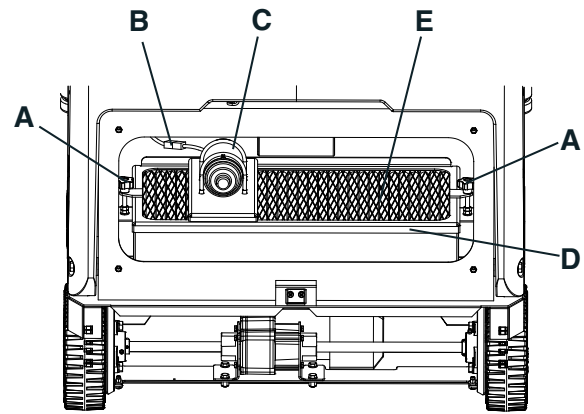
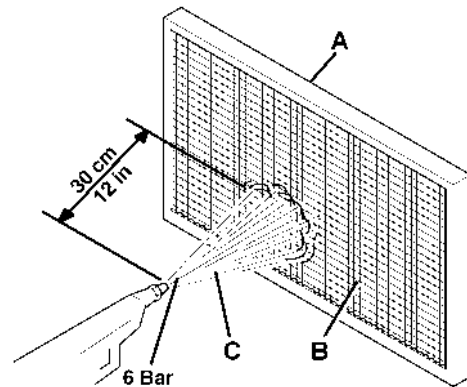

Figure 10
Figure 12
1. Drive the machine on a level floor and engage the parking brake with the pedal (3) and the lever (4).
2. Turn the ignition key (72) to "0".
3. Disengage the hook (18) by pulling its lower end.
4. Remove the hopper (17) by using the handle (19) and by disengaging it from the inner guides.
5. Unscrew the knobs (33) and remove the filter compartment cover (32).
6. Loosen the knobs (A, Fig. 10).
7. Disconnect the connector (B, Fig. 10) from the filter shaker motor (C).
8. Remove the dust filter fastening frame (D, Fig. 10).
9. Remove the dust filter (E, Fig. 10).
10. In an outdoor area, clean the filter by shaking it on a level and clean surface, tapping the side (A, Fig. 12) opposite to the wire gauze (B).
11. Complete the cleaning procedure by using compressed air (C, Fig. 12) at maximum 6 Bar, blowing only from the side of the wire gauze (B), at a minimum distance of 11.8 in (30 cm).
- Install the filter (E, Fig. 10) with the wire gauze (B, Fig. 12) facing upwards.